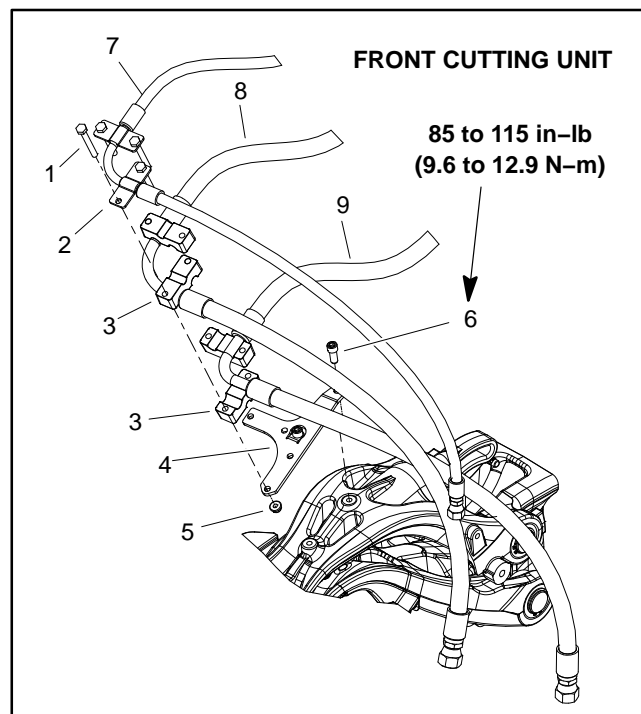

Figure 19
5. Remove hydraulic hose bracket from suspension assembly (Fig. 19 or 20).
2. Position suspension assembly to frame. Align mounting holes and secure suspension with three (3) flange head screws (item 2). Torque screws from **55 to 60 ft-lb (75 to 81 N-m)**.
4. Secure hydraulic hose bracket to suspension assembly (Fig. 19 or 20). Torque two (2) socket head screws from **85 to 115 in-lb (9.6 to 12.9 N-m)**.